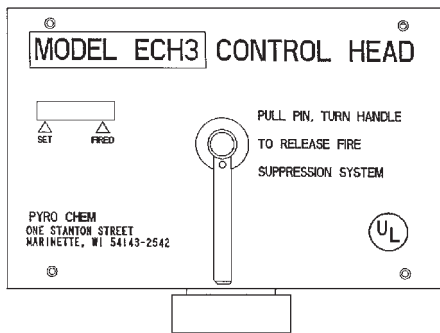

Figure 2-6. Electric Control Head.
The Model ECH3 electric control head is an electrically operated control head which can be connected to the PCI-15/25s/35/50s/70 cylinder valve. This control head will support an electric thermal detection system, a remote mechanical pull station (Model RPS-M), and an electric gas shut-off valve. It will not support a fusible link detection system. A micro switch (Model MS-DPDT) is included. The Model ECH3 control head is available in both 120 VAC (Model ECH3-120) and 24 VDC (Model ECH3-24). It is equipped with a local manual control handle that allows for mechanical system actuation. Operation of the local manual control requires removing the pull pin and rotating the handle clockwise. The Model ECH3 control head can actuate a maximum of five (5) cylinders with the 16 gram CO₂ cartridge. See **Figure 2-6**.